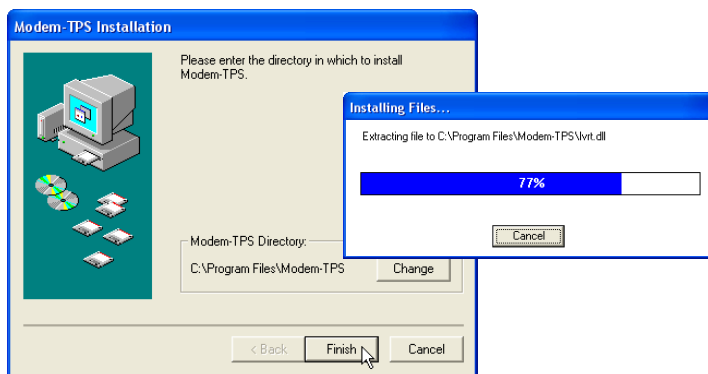

Figure 2-2. Select Modem-TPS Installation Location and Install
- Keep the default installation location or select a new location. Click **Finish** (Figure 2-2).